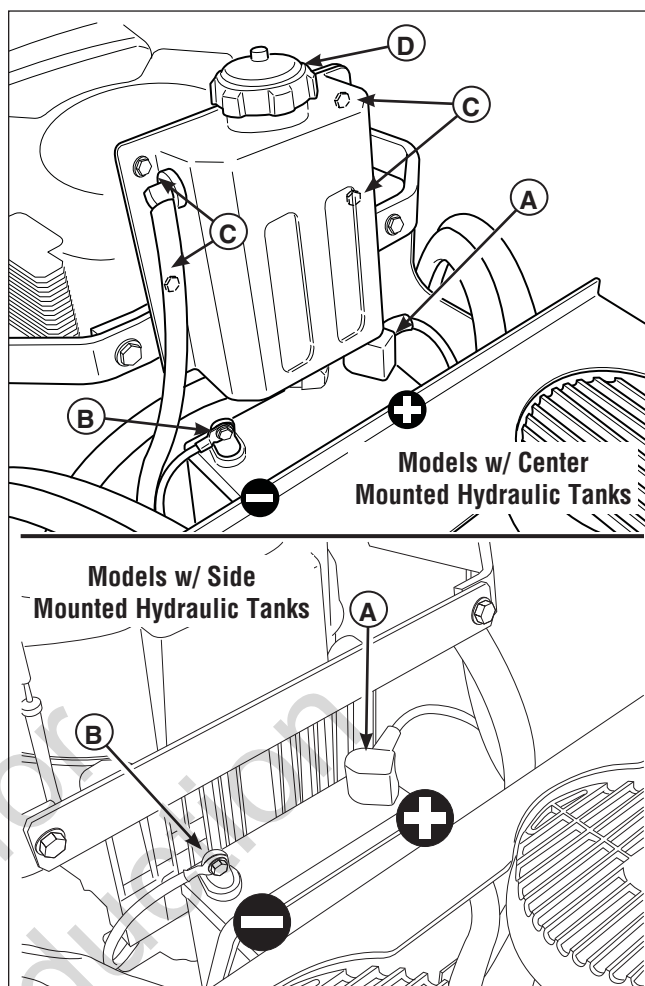

Figure 31. Battery Compartment
1. Remove the hydraulic oil reservoir mounting hardware (**C, Figure 31**) and move the reservoir (**D**) forward to expose the battery.